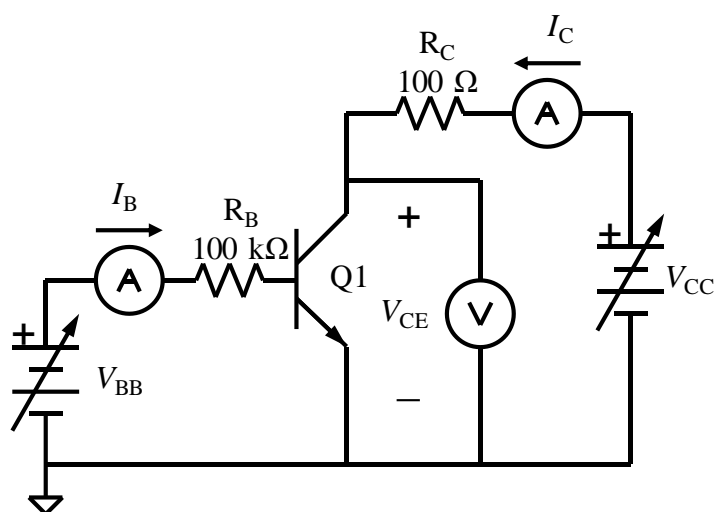

Fig. 3. Circuit for common-emitter output characteristic measurements.
2. Construct the circuit in Fig. 3 for measuring the common-emitter output characteristics as follows.